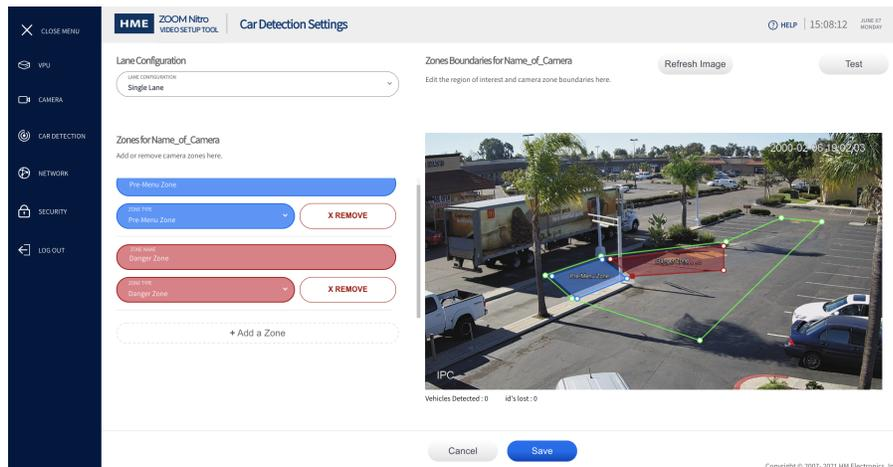

Fig. 6.5
- Finally click + Add a Zone button again, the Danger Zone appears with a new bounding box (red) in the image (the box will be yellow if it overlaps another zone). Adjust the size and shape of this box to define this zone and click Save when you are finished. You should now have three zones in your image, one ROI zone (green boundary line), one Pre-Menu zone (blue area), and one Danger zone (red area), see Fig. 6.5. This completes the Zone Drawing section.